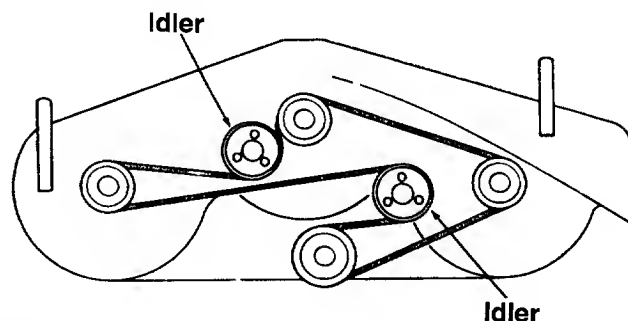

FIGURE 5.
3. Assemble the new belt, using figure 5 as a guide.